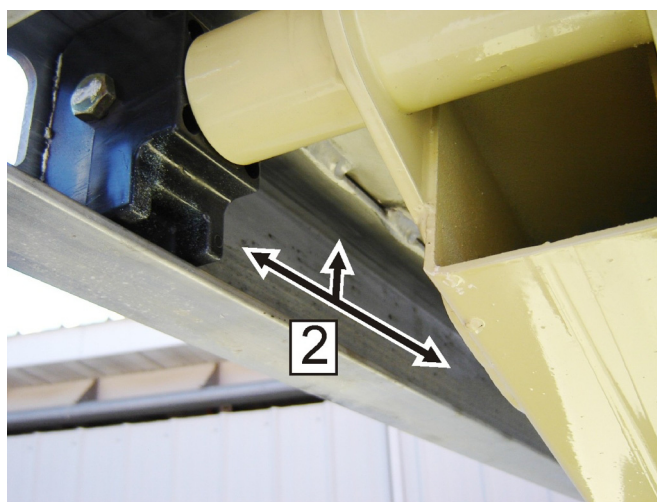

Figure 6-3. Upper Slide Pad Channel
3. Apply a layer of grease along the inside and bottom of the lower slide channel (1) on both sides of the machine.
4. Apply a layer of grease along the inside and top of the upper slide channel (2) on both sides of the machine. Refer to Figure 6-3., Upper Slide Pad Channel.